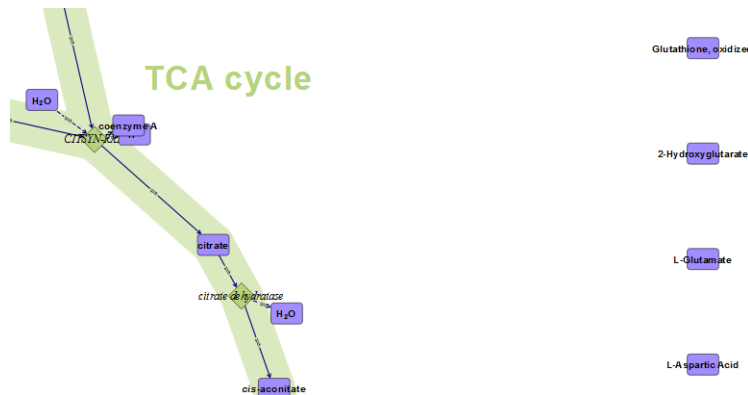

Figure 73 Drawing Area showing the four missing metabolites
- e Click on the *Drawing Area* to place the four metabolites. Exact placement is not important; the metabolites are moved to new locations as they are linked to your network diagram (Figure 73).